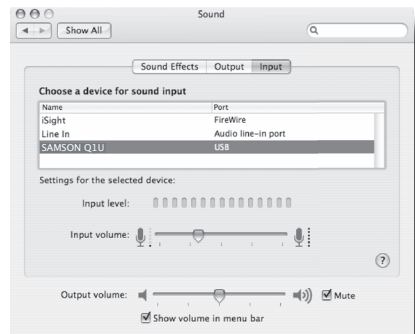

Figure 3
4. Now, click in the Input tab and select Q1U (figure 3).